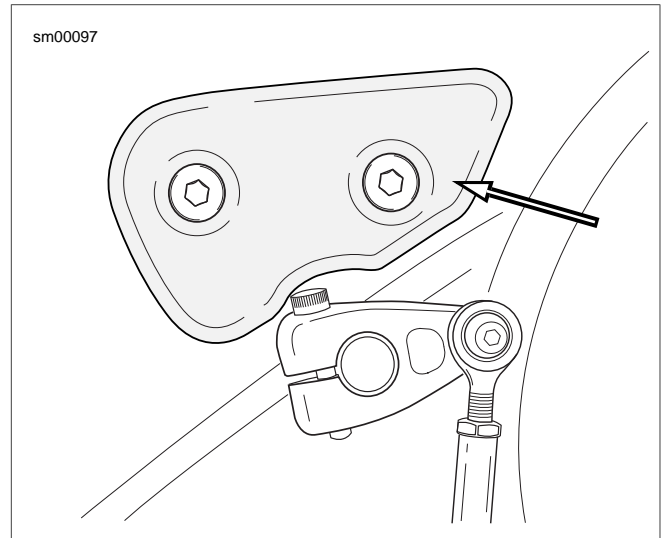

Figure 1-31. Primary Chain Inspection Cover
See Figure 1-31. Measure primary chain tension through the inspection cover opening. Adjust primary chains not meeting vertical free play specifications.
- See Figure 1-31. Remove two fasteners with captive washers and primary chain inspection cover with gasket from primary cover.
- See Figure 1-31. Install primary chain inspection cover and **new** gasket to primary cover using two fasteners with captive washers. Tighten fasteners to 84-108 **in-lbs** (9.5-12 Nm).